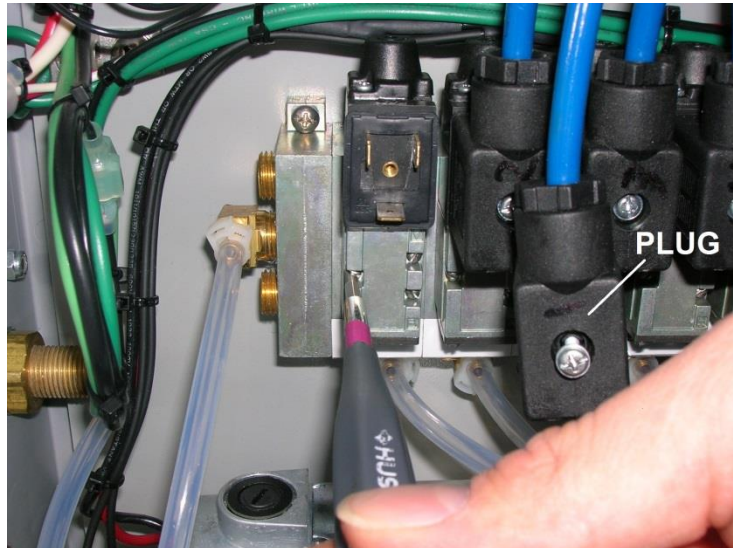
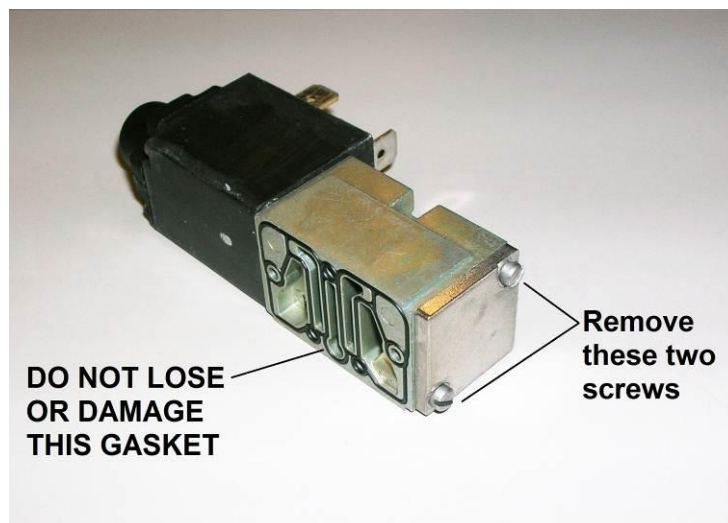
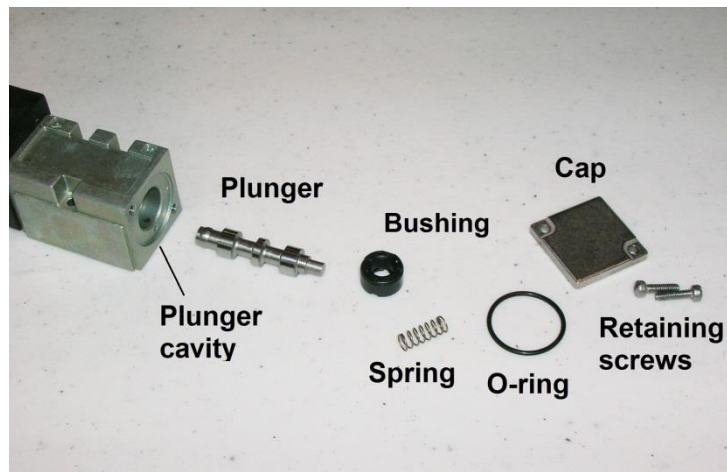

Figure 5-1
Figure 5-2
Figure 5-3
1. Remove plug on solenoid with Phillips screwdriver (do not lose the gasket for the plug) (Figure 5-1).
2. Remove the three screws and solenoid with a small flathead screwdriver (Figure 5-1). Note the black gasket on the underside Figure 5-2). **Do not lose or damage this gasket.**
3. Using the small flathead screwdriver, remove the two screws to the square metal cap (Figure 5-2). Carefully remove the spring, the o-ring, the bushing, and the plunger (Figure 5-3). Clean the plunger and plunger cavity with a spray lubricant and cotton swab (silicon based or aerosol lubricant OK).